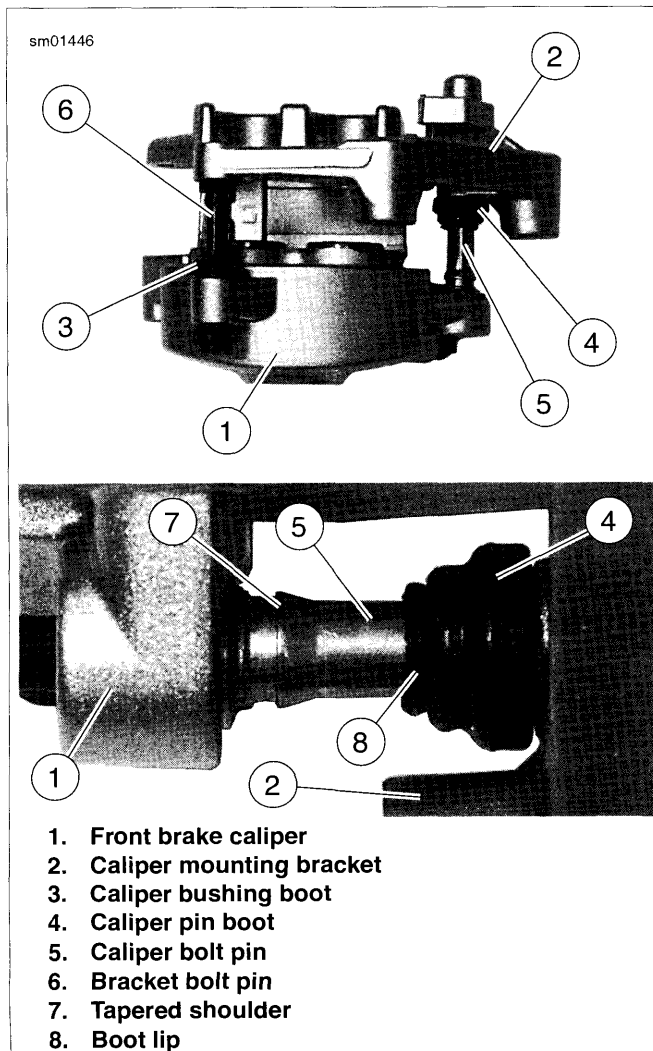

Figure 2-66. Assembling Front Brake Caliper and Mounting Bracket
2. See Figure 2-66. Apply G40M BRAKE GREASE inside boot lip (8) to prevent sticking between boots (3, 4) and bolt pins (5, 6).
3. Assemble brake caliper and mounting bracket, carefully sliding bolt pins into boots. Slide brake caliper all the way onto mounting bracket until boot lips fit over tapered shoulders (7) of bolt pins.